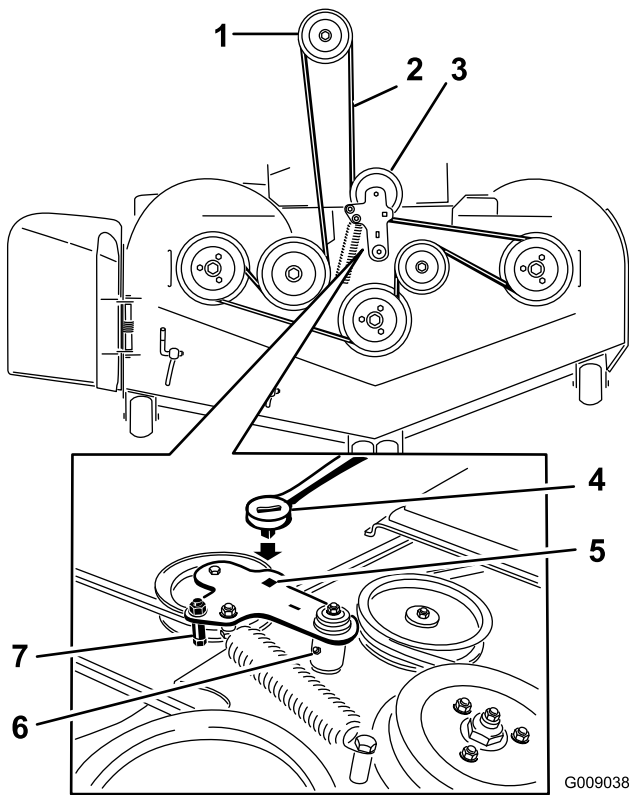

Figure 70
5. Use a ratchet in the square hole in the idler arm to remove tension on the idler spring (Figure 70).
7. Remove the belt guide on the spring loaded idler arm shown in Figure 70.
9. Install the new belt around the mower pulleys and the clutch pulley under the engine (Figure 70).
10. Install the belt guide on the idler arm shown in Figure 70.
11. Using the ratchet in the square hole, install the idler spring (Figure 70).